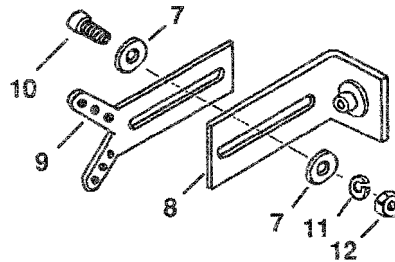

Fig. 5
5. See Fig. 5. Place a flat washer (7) on a 7/8" long cap screw (10) and insert the screw through the Y-support (9) and the bracket (8). Attach it with a flat washer (7), lock washer (11) and a hex nut (12).